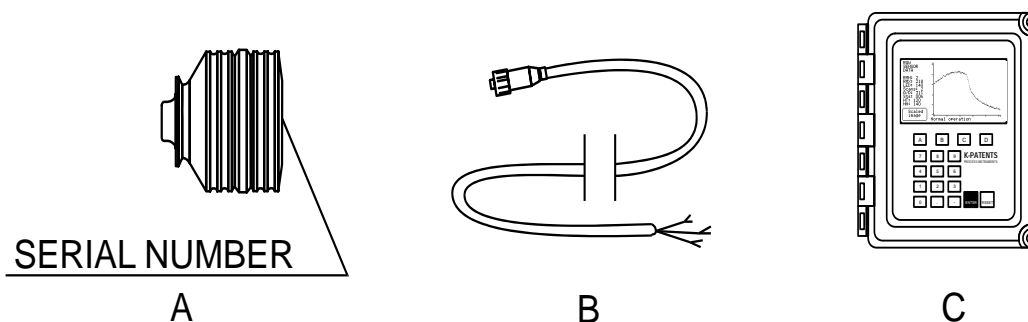
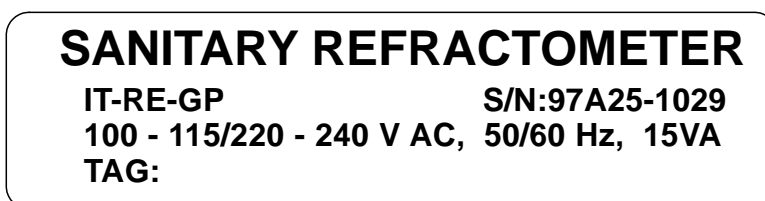
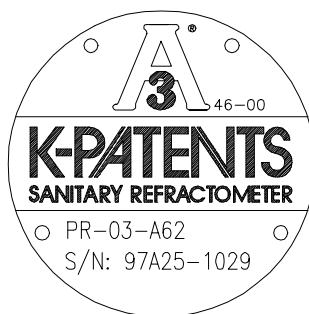

Figure 2.10 Equipment
Figure 2.11 Identification label, Indicating Transmitter.
Figure 2.12 Identification label, Sensor.
The K-Patents Sanitary Refractometer consists of three parts (Figure 2.10): the Sensor (A), the Interconnecting Cable (B) and the Indicating Transmitter (C).
Identification: By Serial Number (S/N) label (Figure 2.11) on the Indicating Transmitter front panel and by Serial number on sensor label (Figure 2.10, Figure 2.12), e.g. 97A25-1029.